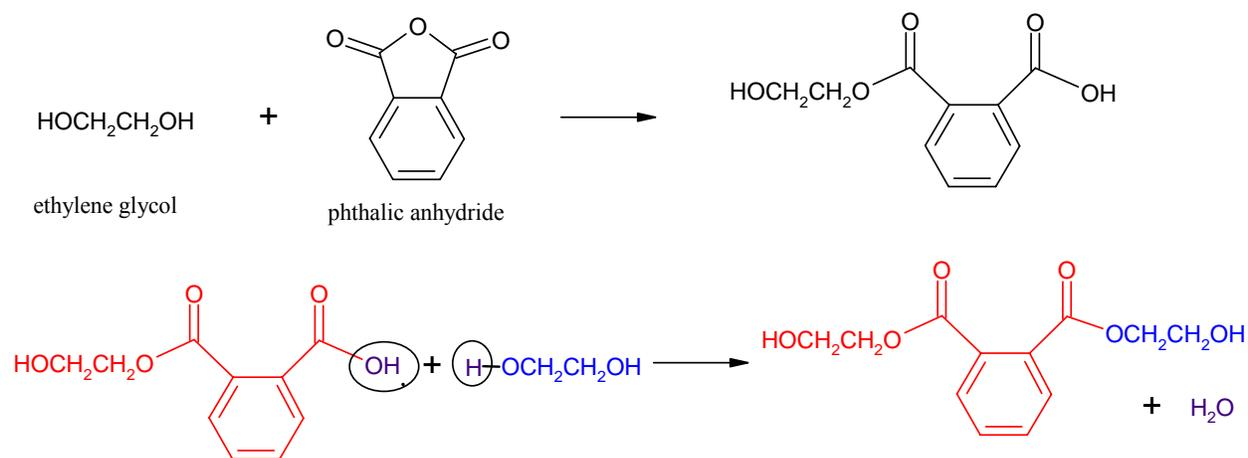
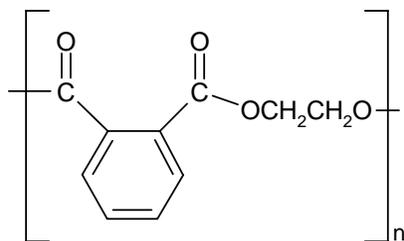

Figure 3: Initial reactions which eventually lead to the formation of linear polyester.
Figure 4: Repeat unit for linear polyester.
One chemical reaction which can be used to prepare polyesters is the condensation reaction of a carboxylic acid with an alcohol. In Figure 3, the initial reaction between one hydroxyl (OH) group on the dialcohol (ethylene glycol) and phthalic anhydride produces a molecule containing a carboxylic acid, an ester and an alcohol group. The carboxylic acid portion of this molecule can then react with another ethylene glycol molecule to produce a diester and a water molecule through a condensation reaction. The hydroxyl groups on the diester may react with more anhydride to extend the polymer chain. By repeating this process, a linear polyester is formed (Figure 4).